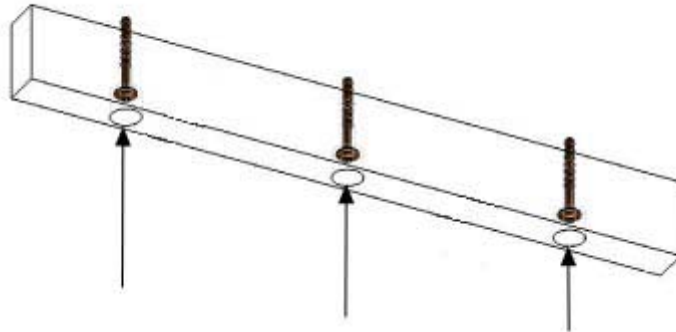

Figure 1
1. Using the (2) pre-drilled holes on the front side of the cleat as a guide, mark the wall with a pencil where your wall anchors will be placed.
3. Attach the cleat to the wave cube using the pre-drilled pocket screw holes at the bottom of the cleat. Drill into the cube using the round washer head screws provided (**Figure 1**).